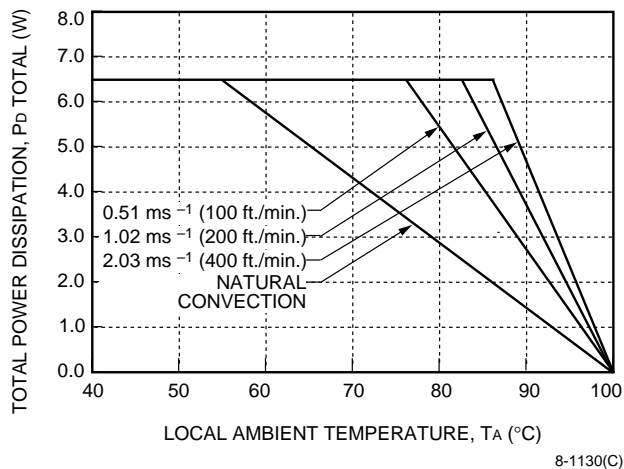

Figure 28. Total Power Dissipation vs. Local
The maximum operating temperature of the DC025 Triple Output-Series Power Modules at a given operating condition can be predicted by combining the power dissipation curves (Figures 23 through 27), the power derating curve (Figure 28), and the thermal resistance curve (Figure 28).
6. Use the estimated total power dissipated (P_{Dtotal}) along with Figure 28 to determine the maximum ambient temperature allowable for a given air velocity.
Figure 28 shows that in natural convection the maximum operating ambient temperature for this module is approximately 66 °C.
The air velocity required to maintain a desired maximum case temperature for a given power dissipation and ambient temperature can be calculated using Figure 28 and the following equation:
This corresponds to an airflow greater than 0.38 ms⁻¹ (75 fpm) in Figure 28.